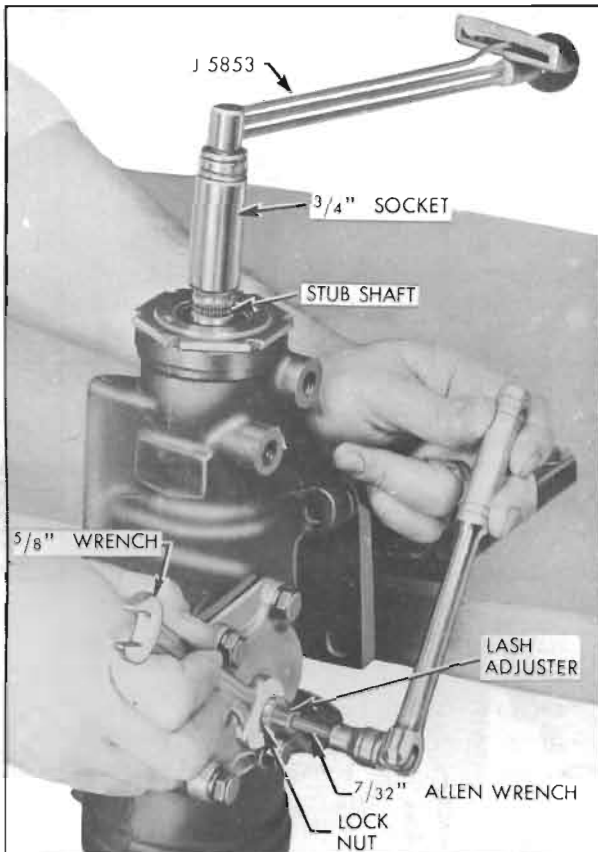

Figure 8-25—Adjusting Pitman Shaft Lash Adjuster
6. If readings are within specifications, adjust pitman shaft lash adjuster to obtain a reading on torque wrench 4 to 8 inch pounds higher than was obtained in Step 5. See Figure 8-25. This reading is taken when rotating stub shaft through "high-point" range with lash adjuster nut tight. Hold lash adjuster from rotating with Allen wrench and tighten lash adjuster nut se-